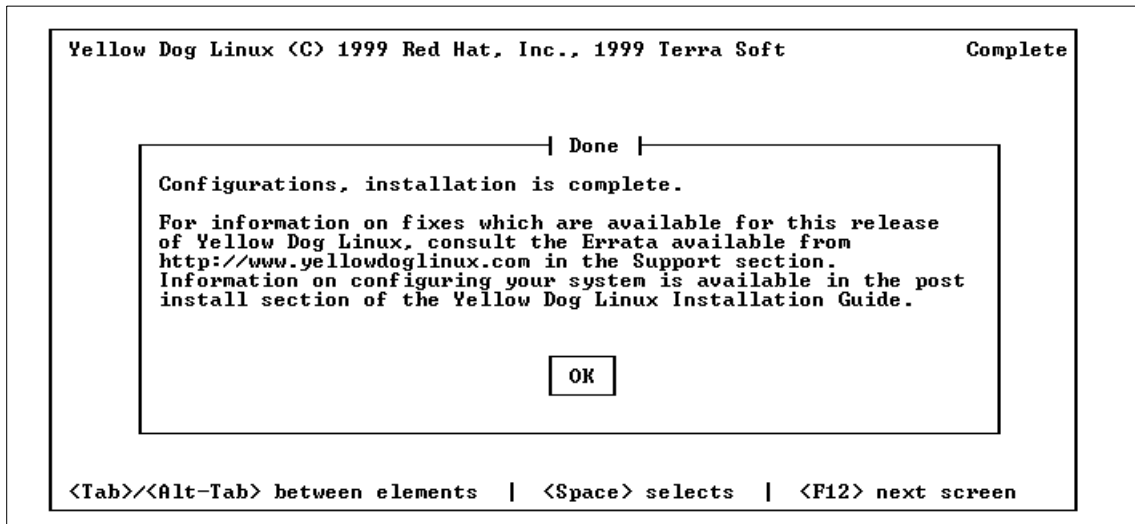

Figure 52. Linux Installation Complete Message
28. You may see the message shown in Figure 52 when you finish your installation.